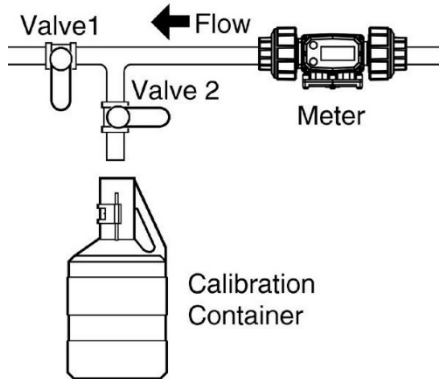

Figure 4
4. Check accuracy after cleaning. See Figure 4 for bucket test method.